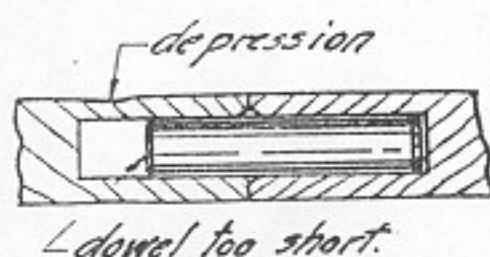

Fig. 217. Depression in surface caused by too short dowel.
13. The dowels are cut to length, 1/8 in. shorter than the combined depth of the two holes in which they are to fit. If a dowel is made too short, its holding power is diminished and the wood around the part of the hole not filled is likely to shrink, thereby causing a depression in the surface (Fig. 217).